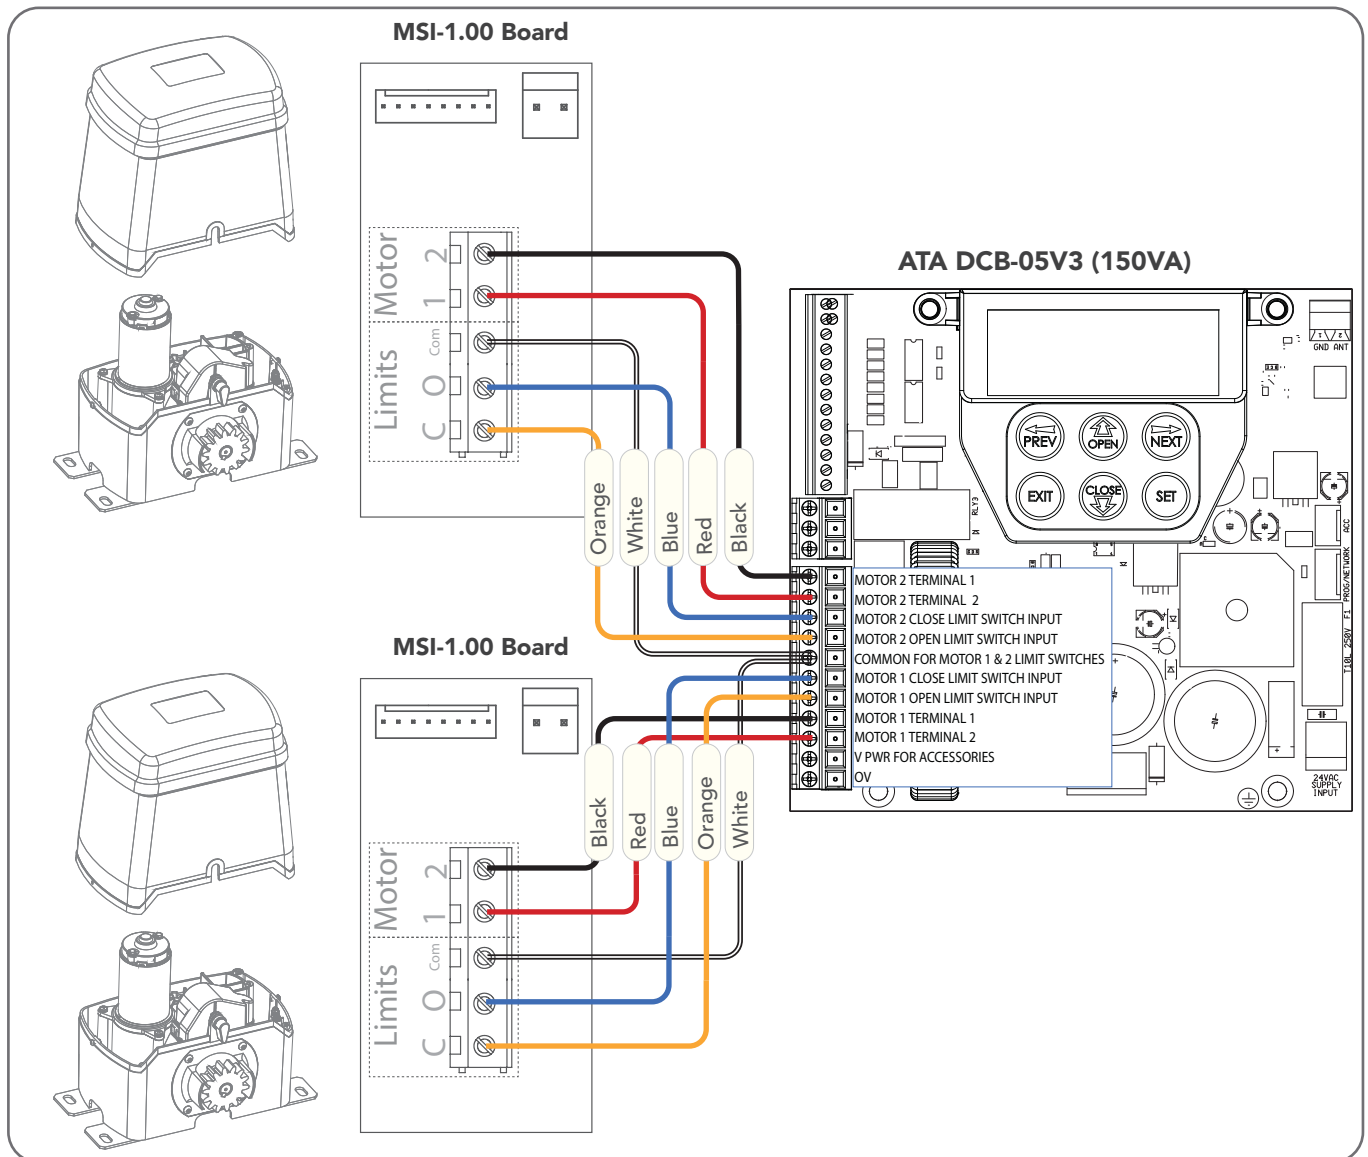

Fig 6.4
This section illustrates how to wire two NeoSlider™ slave openers into a DCB-05V2. (Fig. 6.4)
- Switch over the motor wires (marked red and black in Fig 6.4) on the incorrectly behaving openers MSI board.